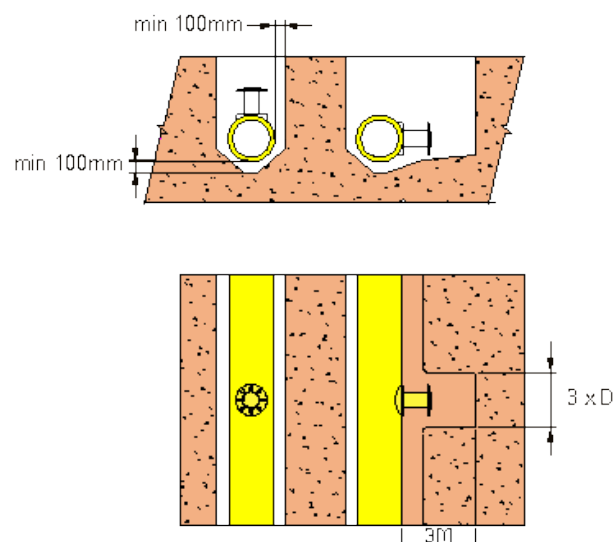

Figure 1- Recommended Excavation Dimension
1. Check that a minimum of 250mm clearance from other utilities plant. *Depending on the orientation of the branch saddle (horizontal or vertical) sufficient clearance around the pipe and for the drilling machine must be made, refer to Figure 1 for dimensions.*